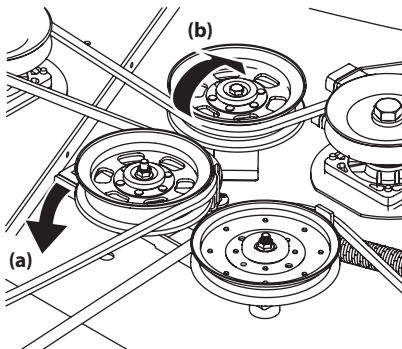

Figure 4-17
- b. Working from the middle of the tractor, pivot the idler bracket and movable idler pulley rearward away from the backside of the 'V' belt (a) just far enough to lift the belt up and over the idler pulley (b). See Figure 4-17.